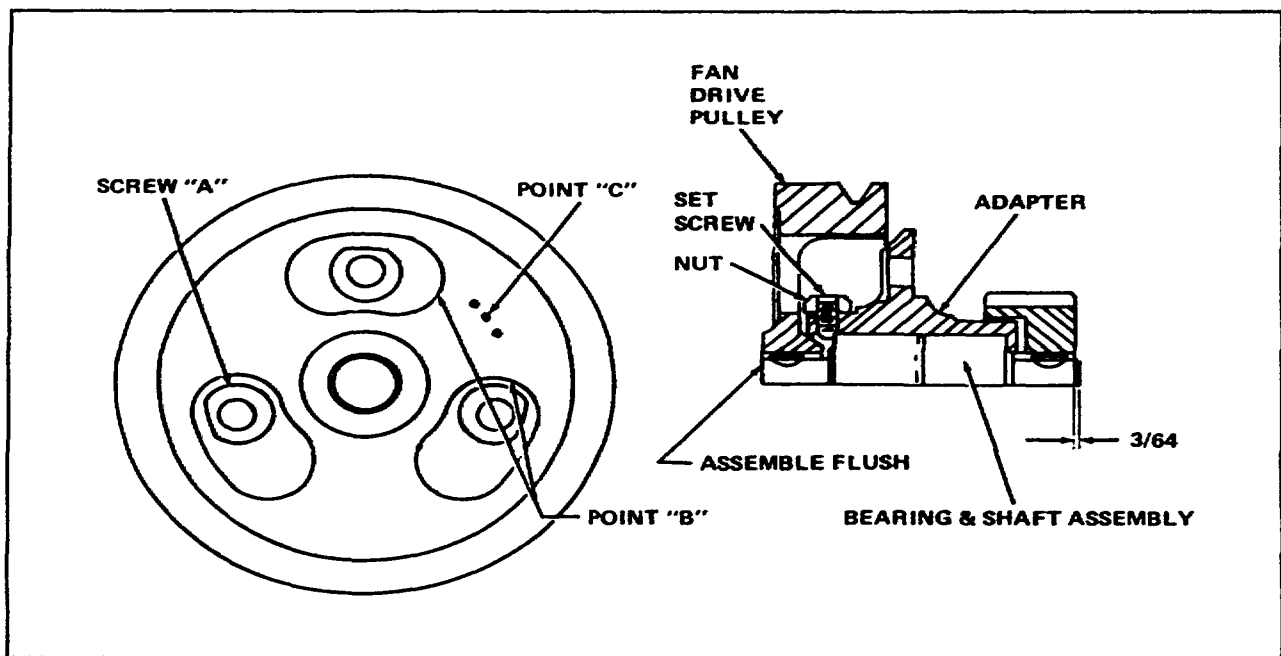

Figure 6-8. Fan Drive Pulley Assembly
6-42. FAN DRIVE ASSEMBLY. The fan drive is assembled and installed as follows (figure 6-8) :
3. Install two 3/8 x 2-1/2 inch screws (11) and one assembled washer 318 x 2-1/2 inch screw (9) and three washers (12) holding cover to front filler block.
4. Install 7/16 x 1-1/2 inch screw (5) with washer (6) in one dowel and 3/8 x 2-3/4 inch screw (8) and washer (7) in other dowel.
5. Install 3/8 x 2-1/2 inch screw (11) to lower right of crankcase, one 318 x 2-1/2 inch assembled washer screw (9) to upper left of crankcase and 3/8 x 1 inch screw (10) in remaining hole.
6. Install dial indicator to record far drive gear backlash at points "B", figure 6-8.